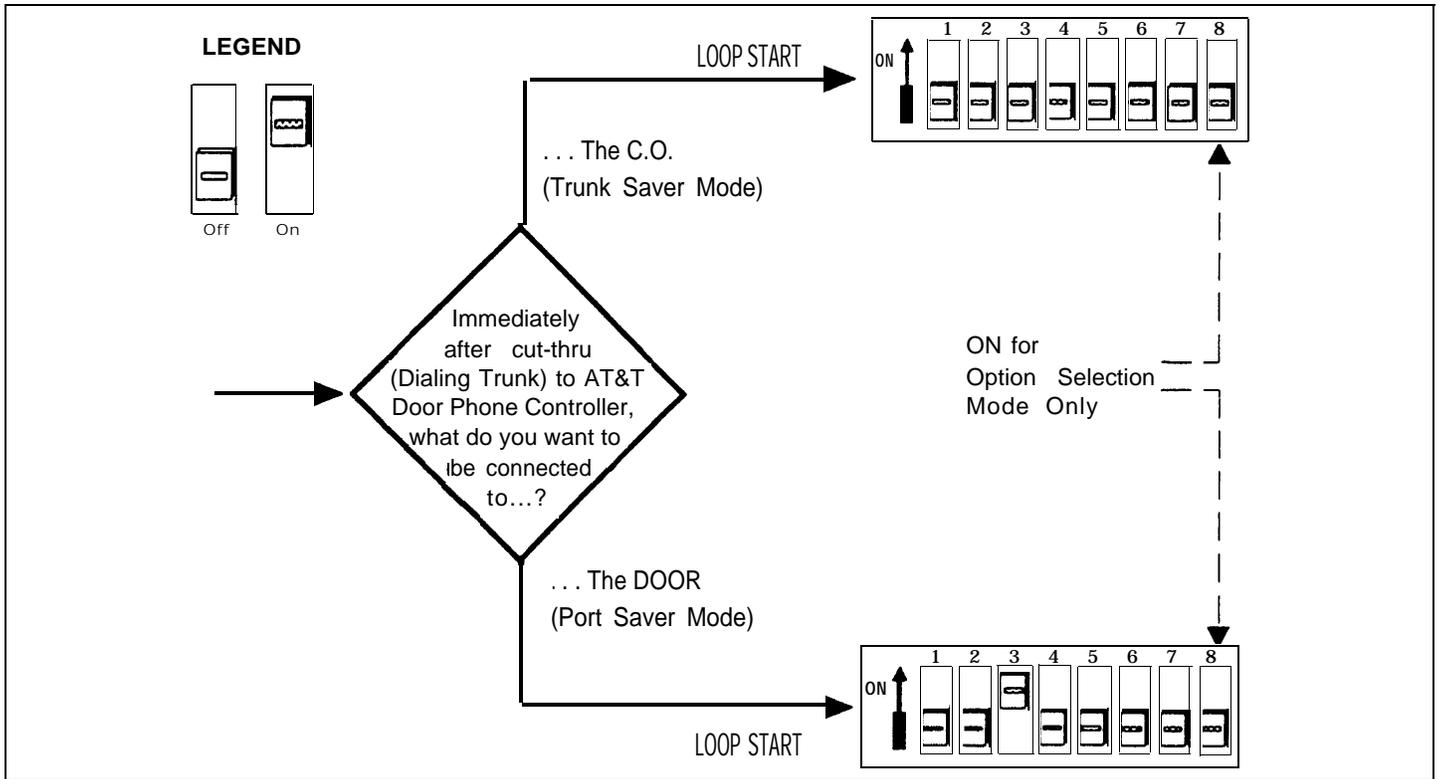

Figure 4-1. DIP Switch Setting for PBX with Dedicated Trunk Port
To customize the AT&T Door Phone Controller to your specific installation and option requirements, you must properly set the 8-position DIP switch located on the AT&T Door Phone Controller front Panel (see Figure 4-1).
*Use the Flow Chart in Figure 4-1 to properly set the DIP switch.*
When using the AT&T Door Phone Controller with a telephone system which has an available dedicated trunk, set the DIP switch as shown in Figure 4-1. Prior to setting this DIP switch, you must know if the dedicated trunk is Loop Start or Ground Start; this information can be obtained from your local telephone company.